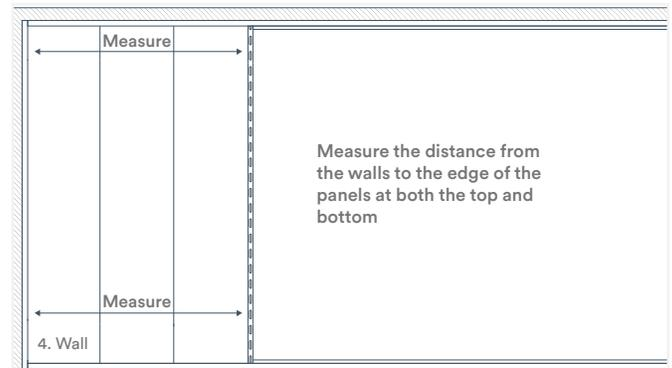

Fig. 14
7. Check your installation periodically to ensure the panels continue to be installed in straight, even rows. To do this, measure the distance from the wall to the edge of your panels at both the top and bottom of the panel (Fig. 14). If both measurements are identical, the installation is adequately aligned. If the measurements are uneven, you will need to correct the positioning of your board.